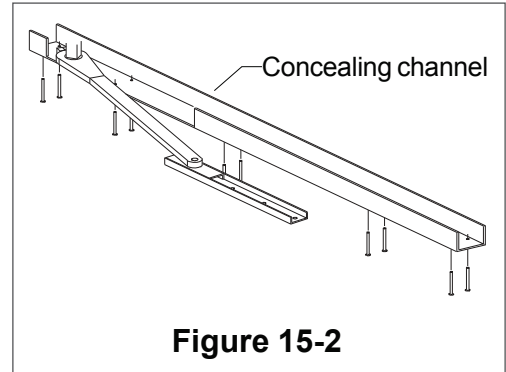

**Figure 15-1**
1. Install spindle plate and filler plate (Figure 15-1). Spindle platecutout fits over operator spindle.